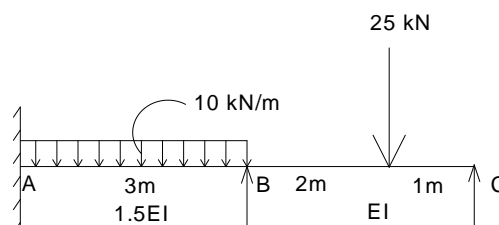

Fig.4
16. Analyse the following continuous beam shown in fig.4 by either flexibility or stiffness method if the support 'B' sinks down by 10mm. Take  $E = 200 \text{ GPa}$  and  $I = 1.35 \times 10^{-3} \text{ m}^4$ . Also draw BMD